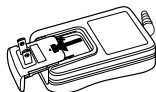

Figure 1
1. Slide the plug in the direction of the arrow in Figure 1, and remove it from the AC adaptor.